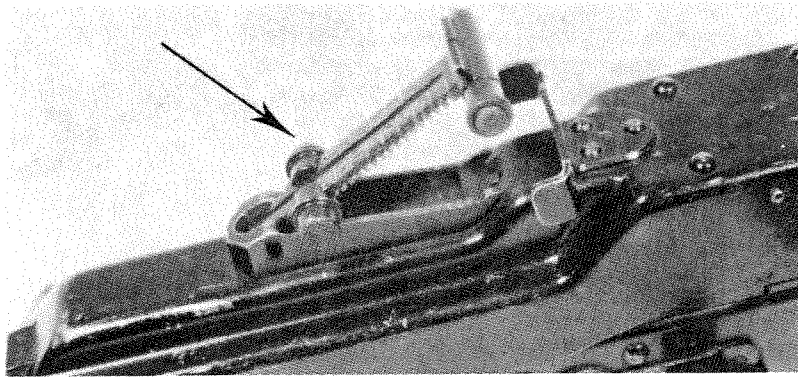

Figure 2-9. Adjustable rear sight.
a. The PKM machine gun is equipped with a protected, open post type front sight adjustable in elevation only. The rear sight is a square notch leaf sight adjustable in both windage and elevation. The rear sight is graduated in 100 meter increments from 1 to 15 and includes a battle sight setting of approximately 330 meters (figs 2-9 and 2-10).